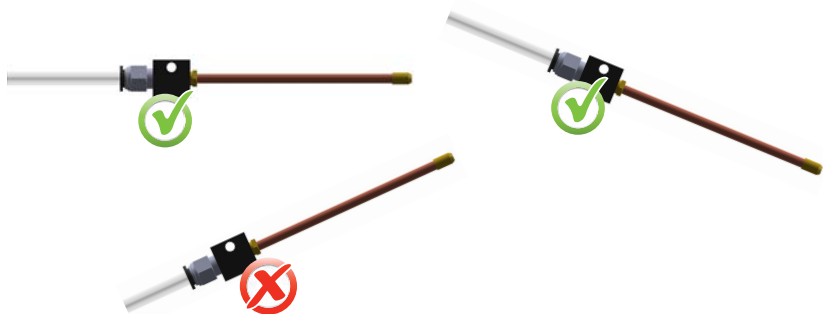

Figure 35: Proper nozzle positioning
- Mounting the nozzle coupler block at an angle so fluid flows down into, and eventually out of, the nozzle. See Figure 35 below for an example of proper nozzle coupler block mounting.